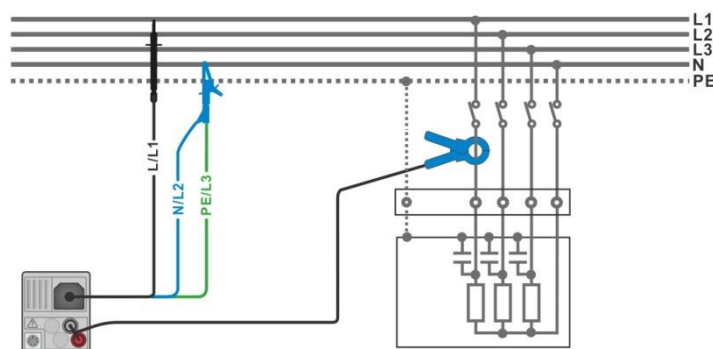

Figure 7.69: Power measurement
- › Connect the voltage test leads and current clamp to the item to be tested (see **Figure 7.69**).